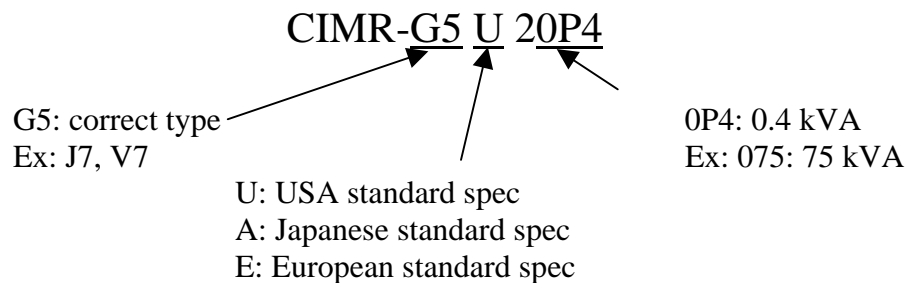

Figure 4.48: Example of Model Number
- **KVA Selection** The KVA represents drive size and includes voltage. This is a read only selection. DriveWizard™ automatically detects which drive is present. You should verify the setting found on the external part of the drive as part of the model number (Figure 4.48).